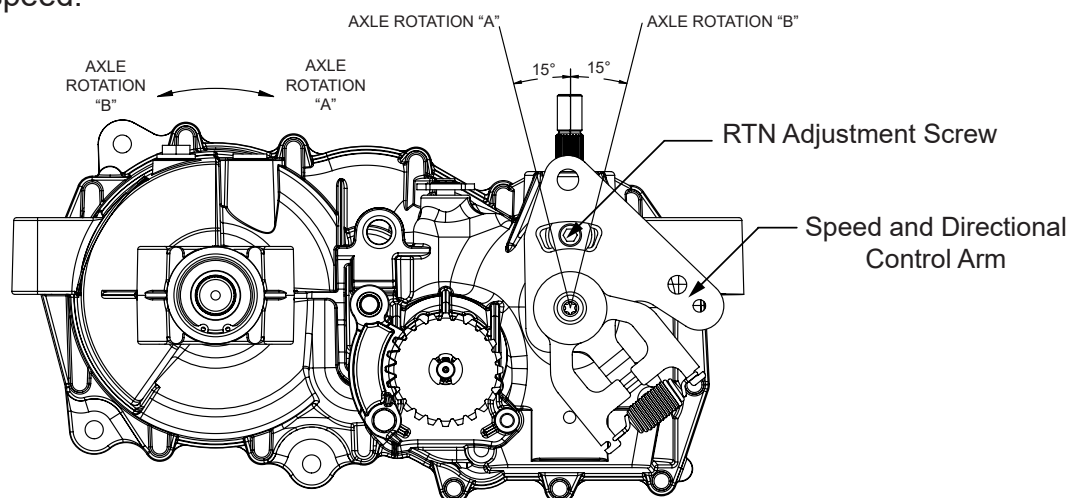

Figure 6. Return to Neutral Setting
2. Remove the Original Equipment Manufacturer's (OEM's) control linkage at the control arm. Refer to Figure 6.
5. Stop the vehicle's engine. Reattach and adjust the OEM linkage according to Step 3 and Step 4. Stop the vehicle engine. Refer to Figure 6.
6. Note the axle directional movement. Stop the vehicle engine. Loosen the RTN adjustment screw until the control arm can be rotated. Rotate the control arm in the opposite direction of the wheel rotation in 5 degree increments. Tighten the RTN adjustment screw. Refer to table 8. Required Torque values, page 16. Recheck according to steps 3 and 4. Stop the vehicle engine. Reattach and adjust the OEM linkage according to the OEM manual. Recheck according to steps 3 and 4. Refer to Figure 6.